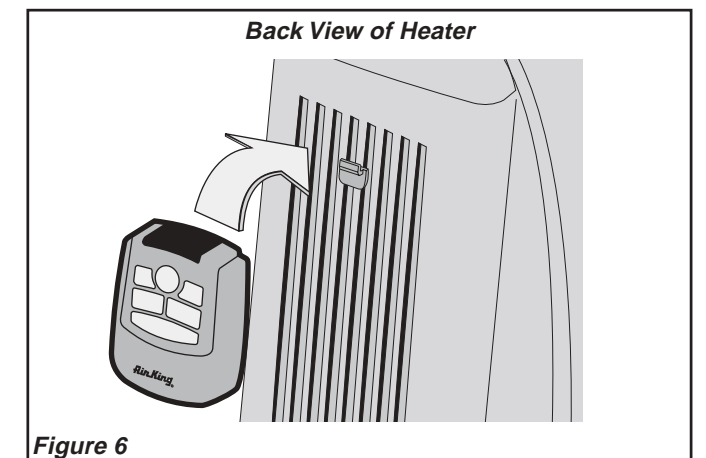

Figure 6
3. Remote control hook is located on back of Heater. (Figure 6)